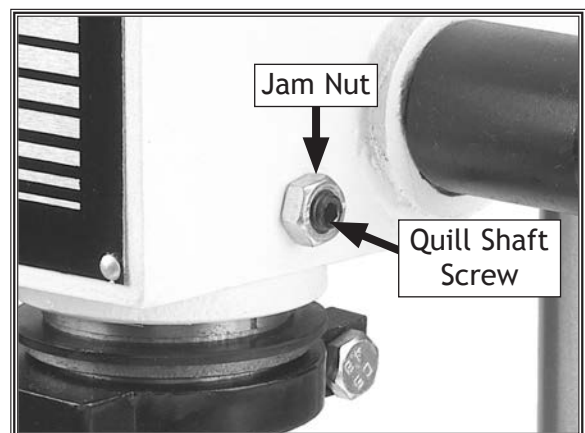

Figure 42. Location of quill shaft screw and jam nut.
3. Loosen jam nut shown in **Figure 42**.
4. Turn quill shaft screw clockwise or counterclockwise to establish free, unbinding travel while moving quill up and down through its entire range of travel (see **Figure 42**).